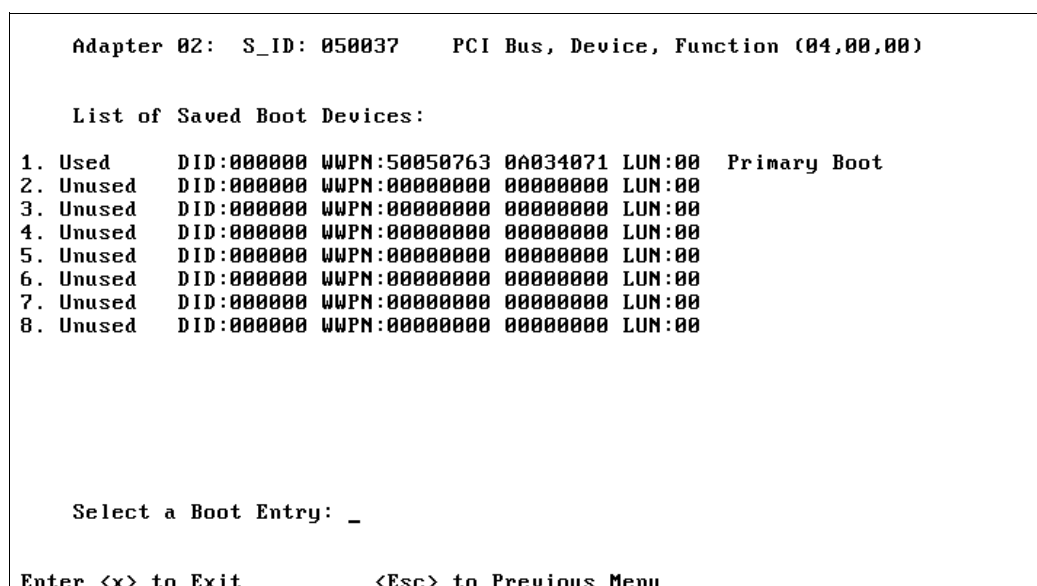

Figure 3-36 Boot LUN's WWPN
14. Now the LUN, on DS8000 Subsystem, shows up in the List of Saved Boot Devices, as shown in Figure 3-36.